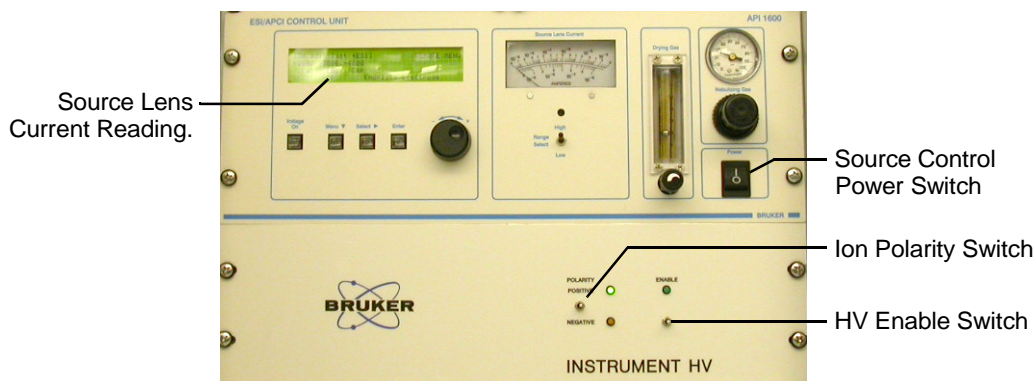

Figure 4-4 Source Control Unit (top) and Instrument HV Panel
8. Check the **Power Switch** in the lower right corner of the Source Control to make sure that the controller is turned on (Figure 4-4).
When the two 3-position switches on the Instrument HV panel (Figure 4-4) are in the middle position, the unit is remotely controlled from the BioTOF window.